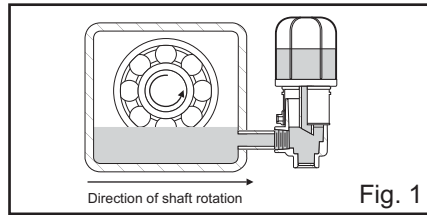

Fig. 1
1. Prior to installing the Opto-Matic Oiler, shaft rotation direction must be determined, typically indicated by an arrow on the casting of the equipment. Install oiler on the side of the equipment facing the direction of shaft rotation to prevent misfeeding of the oiler (Fig 1).